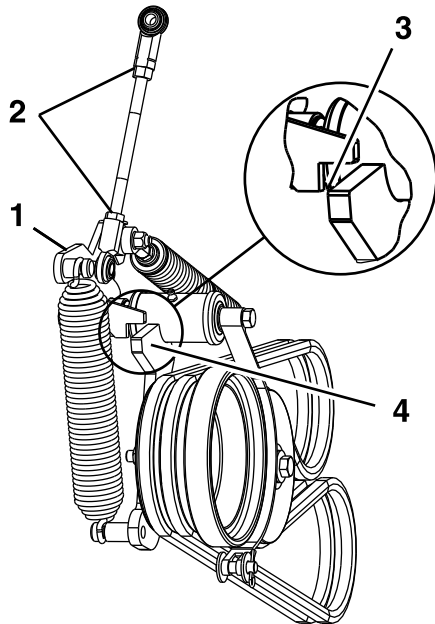

Figure 10
12. Loosen the jam nuts and adjust linkage until the top of the idler arm is aligned with the bottom of notch on tension arm as shown in Figure 10.